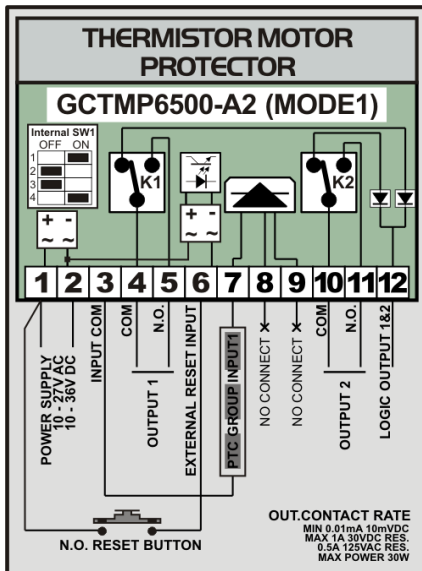

fig. 2
2. 1 Motor protection, through a connection with a PTC Thermistor or a triple PTC Thermistor group (Mode 1 - fig. 2). For this operating mode, only the K1 relay is available.
(Modes 1-2-3 - *fig. 2,3,4*)